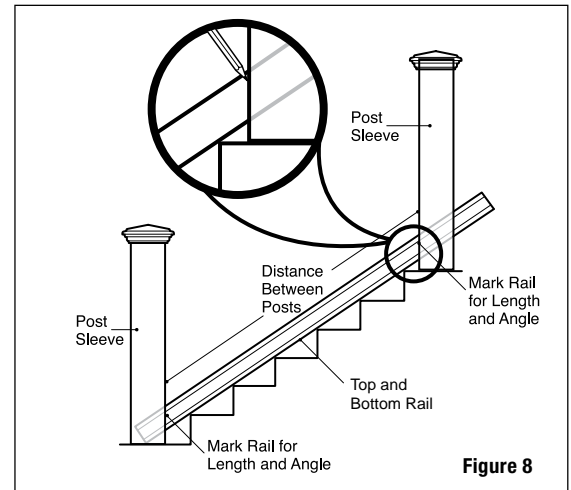

Figure 8
Step 4 Measure the distance between installed post sleeves to determine the length of the top and bottom rails. Lay bottom rail on stairs with the pre-drilled holes facing down. The distance between the post and first baluster should be less than 4" and equal on both ends. Mark the angle and length. Do the same with the top rail. Remove an additional 1/4" on both ends (1/2" overall) for the bracket to fit between the rail and post. Trim the top and bottom rails to length with the same angle (fig. 8).